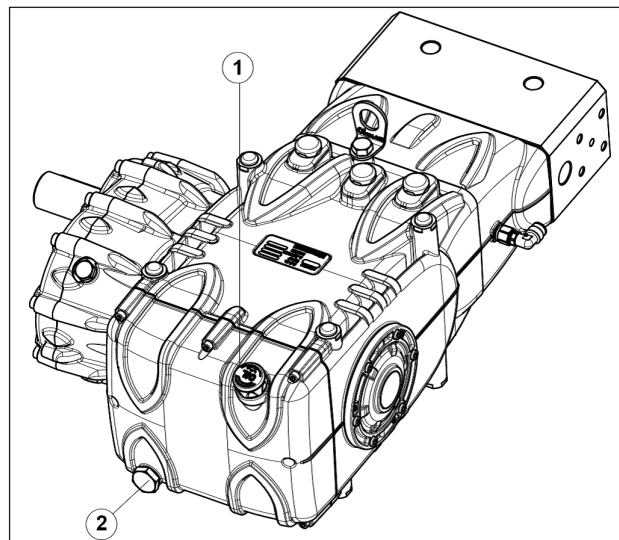

Fig. 3
Check the oil level, refill if necessary from the oil dipstick pos. ①, Fig. 3.
The correct checking of the oil level is made with the pump not running, at room temperature. The oil change must be made with the pump at working temperature, removing the plug pos. ②, Fig. 3.